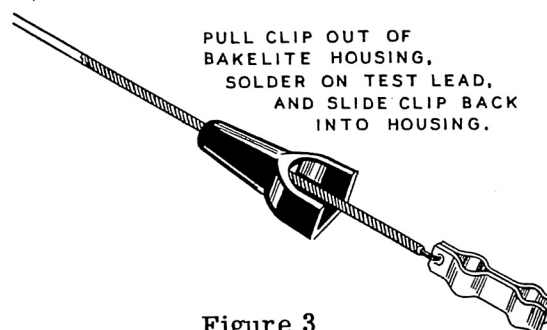

Figure 3
- (✓) Connect a red 30 volt power transformer lead to CC3 (S).
- (✓) Connect the red 100 volt lead to R2 (NS). (The red 250 volt lead is left unconnected at this time.)
- (✓) Mount the .1  $\mu$ fd condenser between R2 (S) and Q3 (S).
- (✓) Connect the black 0 volt transformer lead to N2 (S).
- (✓) Connect the black 100 volt transformer lead to DD3 (S).
- (✓) Connect the black 125 volt power transformer lead to DD1 (S).
- (✓) Connect the white 0 volt transformer lead to PP2 (S).
- (✓) Connect the 2500  $\Omega$  5 watt wire-wound resistor between Z1 (NS) and Z2 (NS).
- (✓) Run a wire from Z2 (S) to CC2 (S).
- (✓) Connect the red 250 volt power transformer lead to Z1 (S).
- (✓) Study Figure 3 and mount the grid clip on the grid clip test lead. Note that the metal clip section should be pulled out of the bakelite cap and the conductor of the test lead soldered to it. Do not use excessive solder as the clip is pushed back into the bakelite housing after the soldering has been completed.